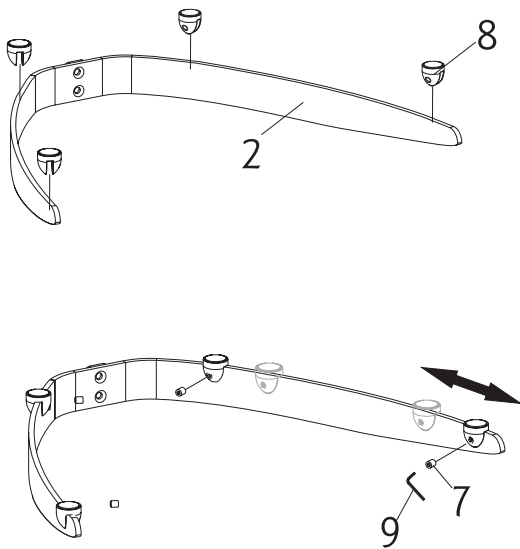

Fig. 1
Attach the Glass support Pads (8) to the Shelf Brackets (2) with Set Bolts (7). Use the 2.5x2.5mm Hex Wrench (9) to loosely tighten the Set Bolts (7). Next, slide the Glass Support Pads (8) into position as required (see Fig. 1). The position of the Glass Support Pads (8) can be adjusted to properly support any A/V equipment (22 Lbs maximum shelf capacity). After position adjustment, securely tighten all Set Bolts (7) in the Glass Support Pads to each Shelf Bracket using the 2.5mm Hex Wrench (9).